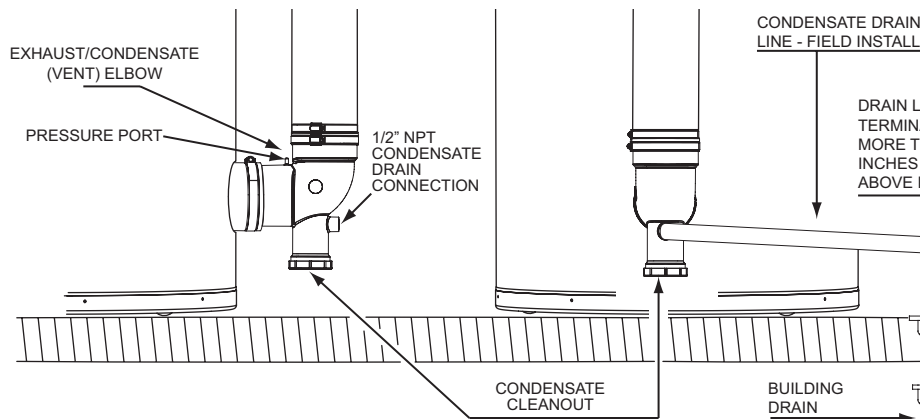

Figure 50. Condensate Drain Installation
2. Install a 1/2 inch PVC condensate drain line between the condensate drain connection on the Exhaust/Condensate Elbow and a suitable building drain. The exhaust elbow has a "built in" condensate trap. Do not install an additional trap in the condensate drain piping. See *Figure 50*.
3. Terminate the condensate drain piping with an elbow above the drain. Ensure that any discharge will exit the condensate drain line no more than 6 inches (15.2 cm) above a suitable building drain, or external to the building. See *Figure 50* (page 39).
4. Ensure the condensate drain line is not elevated above the condensate drain connection on the exhaust/condensate elbow. See *Figure 50*.